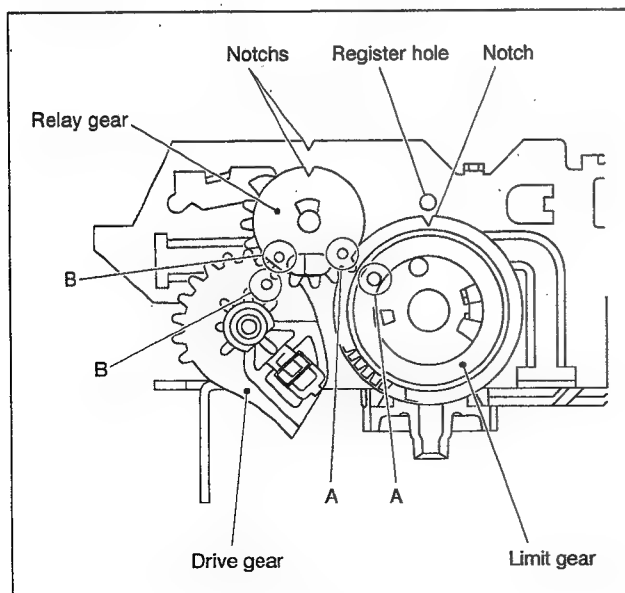

Fig. 2-3-7
- (1) Install the limit gear so that the notch at its outer circumference is in alignment with the register hole of the main deck. (See Fig.2-3-7)
- (2) Install so that the notch at the outer circumference of the relay gear is in alignment with the notch of the main deck, and at the same time, that the hole A of the relay gear is in alignment with hole A of the limit gear and hole B of the relay gear with hole B of the drive gear. (See Fig.2-3-7)